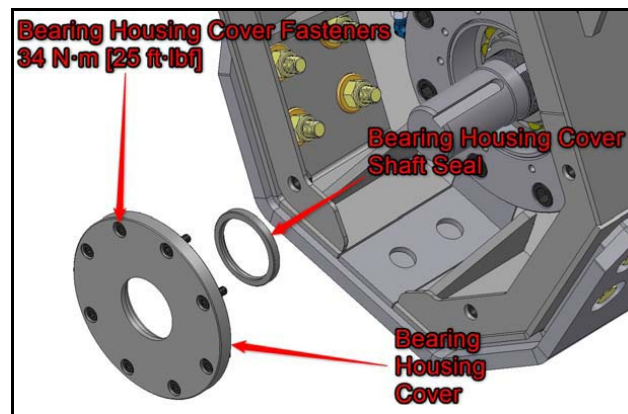

Figure 23
1. Pack the space between the bearing and the bearing housing cover with grease **[Figure 23]**.